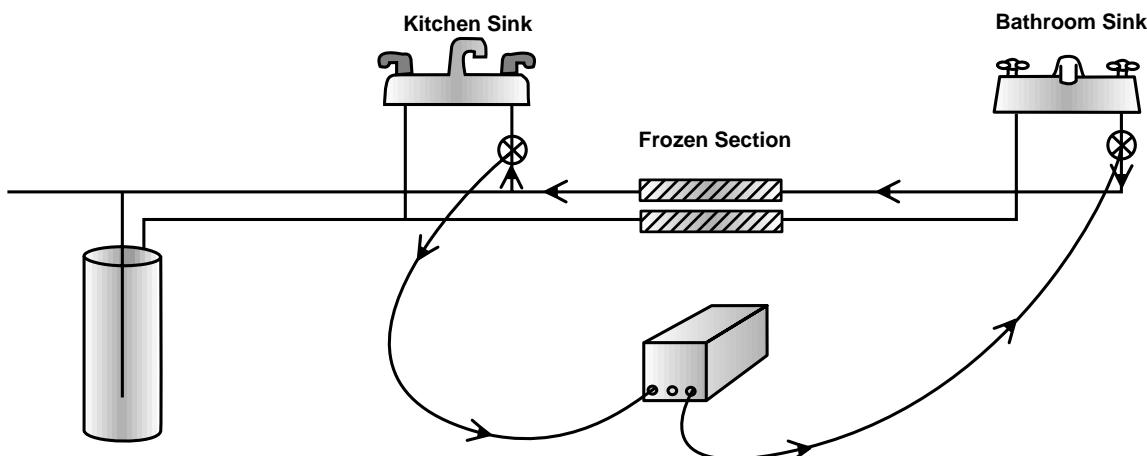

Figure 4 – Thawing Tap Water Lines
**NOTE!** It is recommended that there be standard water pressure on one side of the frozen section of pipe and an open faucet on the other side of the frozen section (*Figure 4*). As the pipe warms to above freezing point, the water, with pressure behind it, will seep along the inside walls melting and flushing the remaining ice out of the faucet.